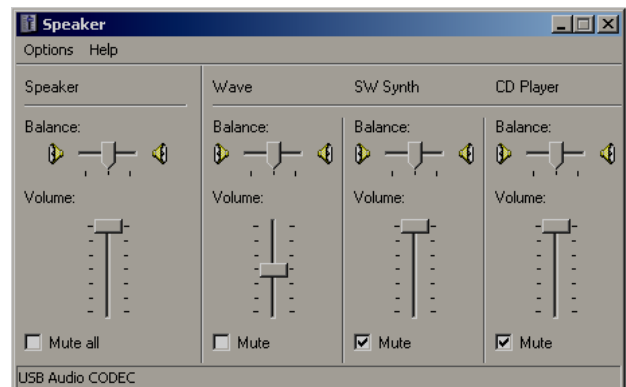

Figure 3 Volume Control Panel
- The Volume Control panel will now open again and display the Signalink's software volume controls. "USB Audio Codec" should be displayed at the bottom of the window. Set the "Speaker" control (far left control) to 100% max volume, and then set the "Wave" control to 50%. Note that the Speaker and Wave controls must **NOT** be muted or you'll be unable to transmit. The other two volume controls (SW Synth and CD Player) can be muted if you'd like. Your volume control panel should now look like the one shown below in Figure 3.